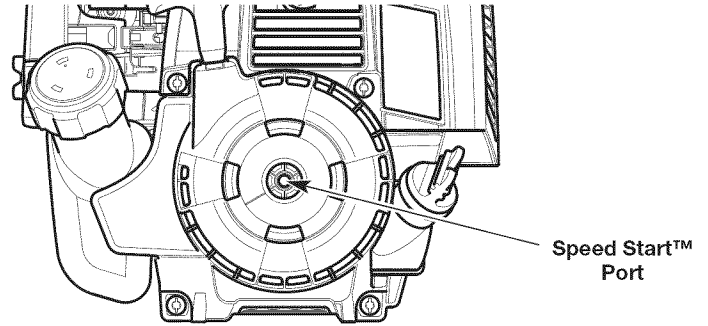

Fig. 18
5. Insert the Speed Start™ accessory into the Speed Start™ port (Fig. 18). Refer to the *Operation* section of the Speed Start™ accessory operator's manual.